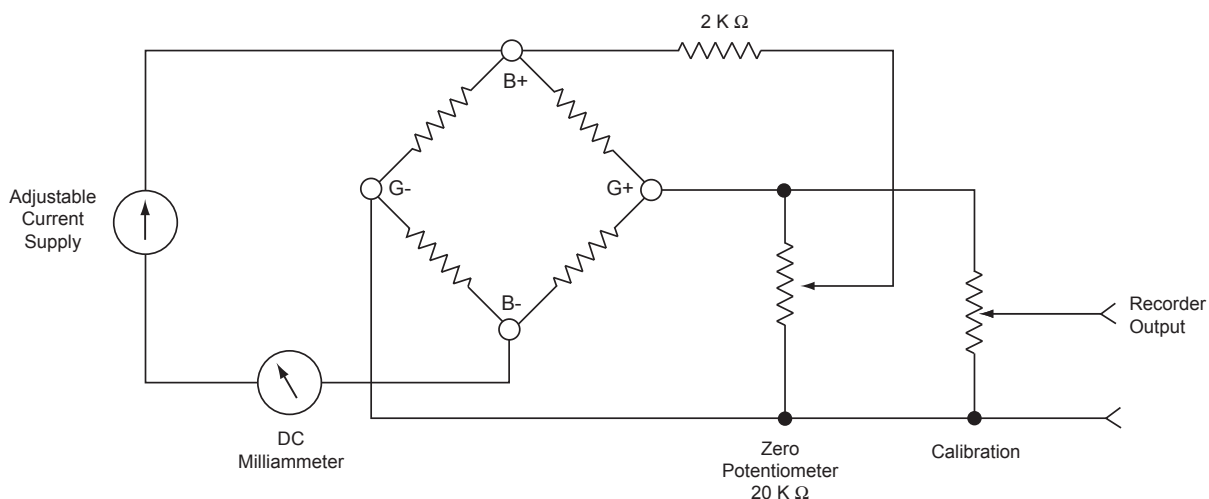

Figure 2-1: Thermal Conductivity Cell
Detector elements used in the 5100 Series Gas Analyzer are fabricated from either rhenium-tungsten (WX) or tungsten (W2). The filaments are connected to form a Wheatstone Bridge, then powered by a high-quality constant current source. The output of the bridge is then electrically zeroed. When a sample with a lower thermal conductivity than the balance (or zero standard) gas is introduced, an unbalance in the Wheatstone Bridge occurs. This unbalance is displayed on the readout and can be calibrated in terms of the composition (Figure 2-1).